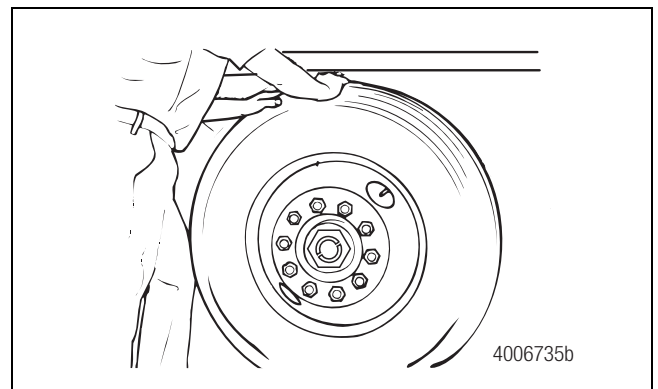

Figure 4.10
4. Grasp the tire and wheel-end assembly at the 12 and six o'clock positions. Check for vertical and horizontal movement. With your hands, apply approximately 50 lb (23 kg) of force to the assembly. You should not feel or see any looseness or movement. Figure 4.10.
8. Grasp the tire and wheel-end assembly at the 12 and six o'clock positions. Check for vertical and horizontal movement. With your hands, apply approximately 50 lb (23 kg) of force to the assembly. You should not feel or see any looseness or movement. Figure 4.10.